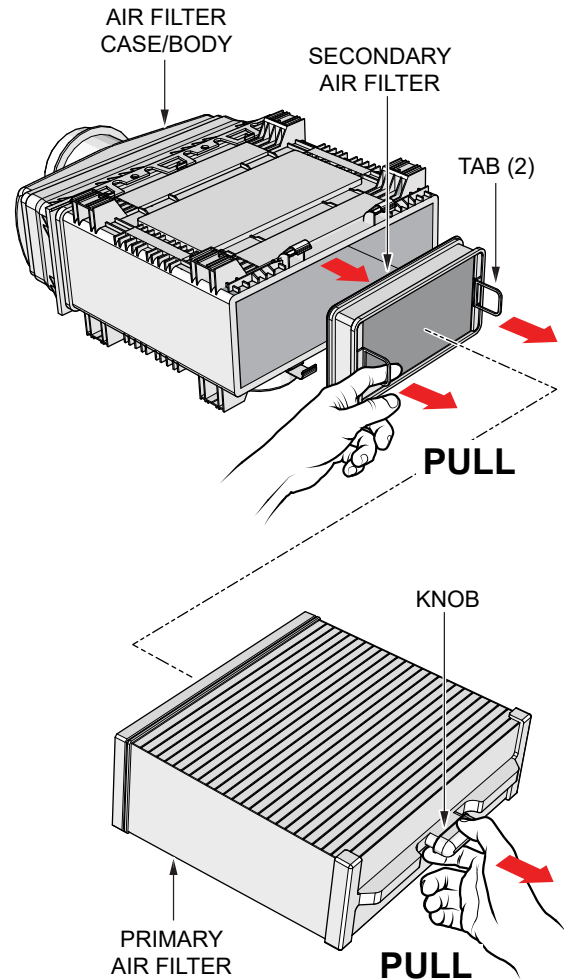

Figure 34. Removing Air Filter Elements
This Cummins diesel engine is equipped with a replaceable, high-density paper air cleaner element (Figure 34). This air cleaner is also equipped with an inner element (secondary) that is used as a backup filter should the primary element become damaged.
3. Remove both the primary and secondary air filter elements (Figure 34) from the case/body.